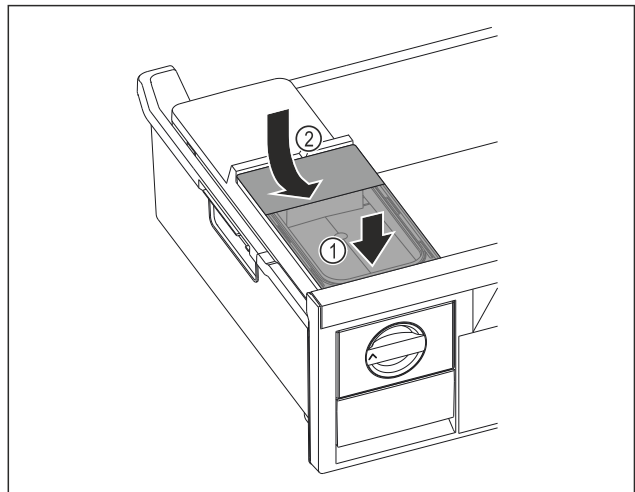

Fig. 104
- Position the water tank at the front. Fig. 104 (1)
- Lower the water tank at the rear. Fig. 104 (2)